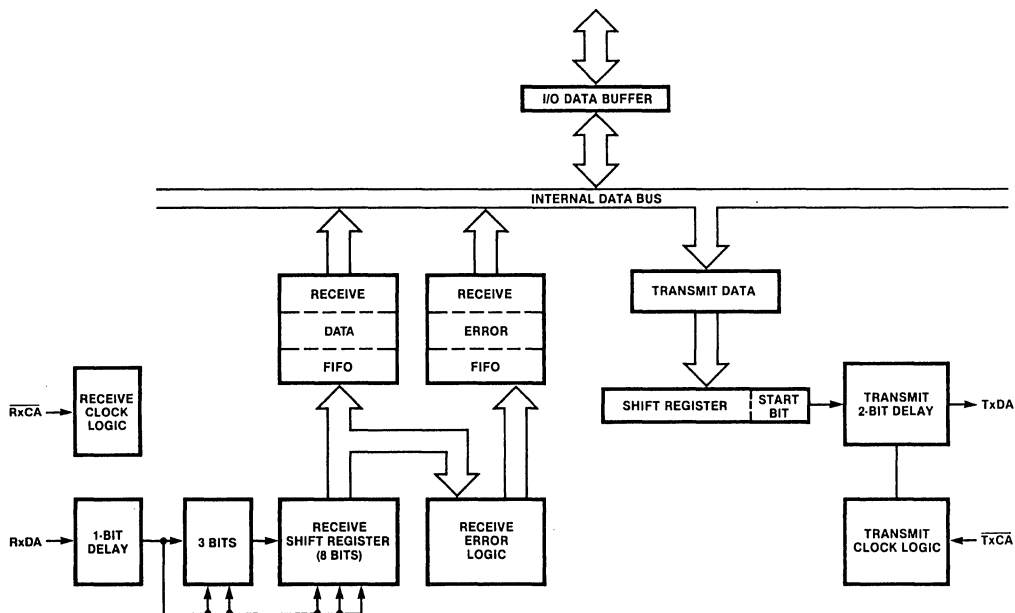

Figure 4. Data Path
**Data Path.** The transmit and receive data path illustrated for Channel A in Figure 4 is identical for both channels. The receiver has three 8-bit buffer registers in a FIFO arrangement in addition to the 8-bit receive shift register. This scheme creates additional time for the CPU to service a Receive Character Available interrupt in a high-speed data transfer.
**Write Registers.** The Z80 DART contains six registers (WR0-WR5) in each channel that are programmed separately by the system program to configure the functional personality of the channels (Figure 4). With the exception of WR0, programming the write registers requires two bytes. The first byte contains three bits (D0-D2) that point to the selected register; the second byte is the actual control word that is written into the register to configure the Z80 DART.